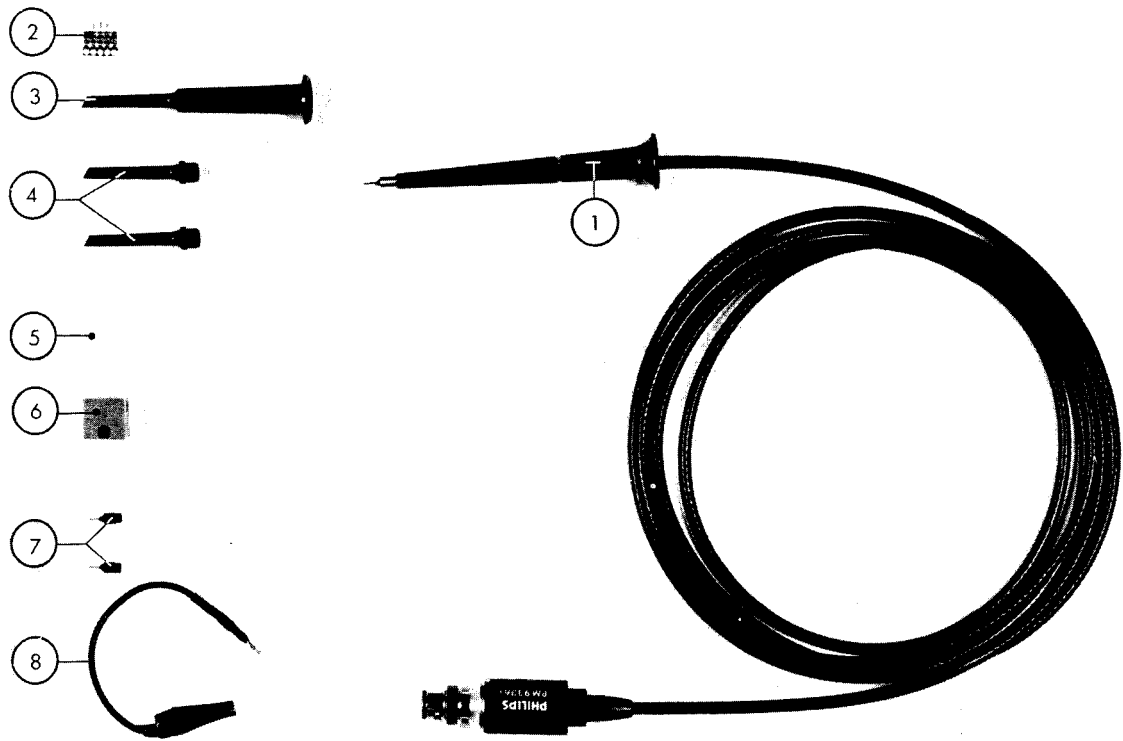

Fig. 20. Attenuator probe set PM 9336 (PM 9336L)
3.7.6. Attenuator probe sets PM 9336 and PM 9336L (Fig. 20)
| 1 probe assembly | Fig. 20, item 1 |
| 5 soldering terminals | Fig. 20, item 2 |
| 1 test hook | Fig. 20, item 3 |
| 2 spare test hook sleeves | Fig. 20, item 4 |
| 1 protective cap | Fig. 20, item 5 |
| 1 probe holder | Fig. 20, item 6 |
| 2 probe tips | Fig. 20, item 7 |
| 1 earthing cord | Fig. 20, item 8 |